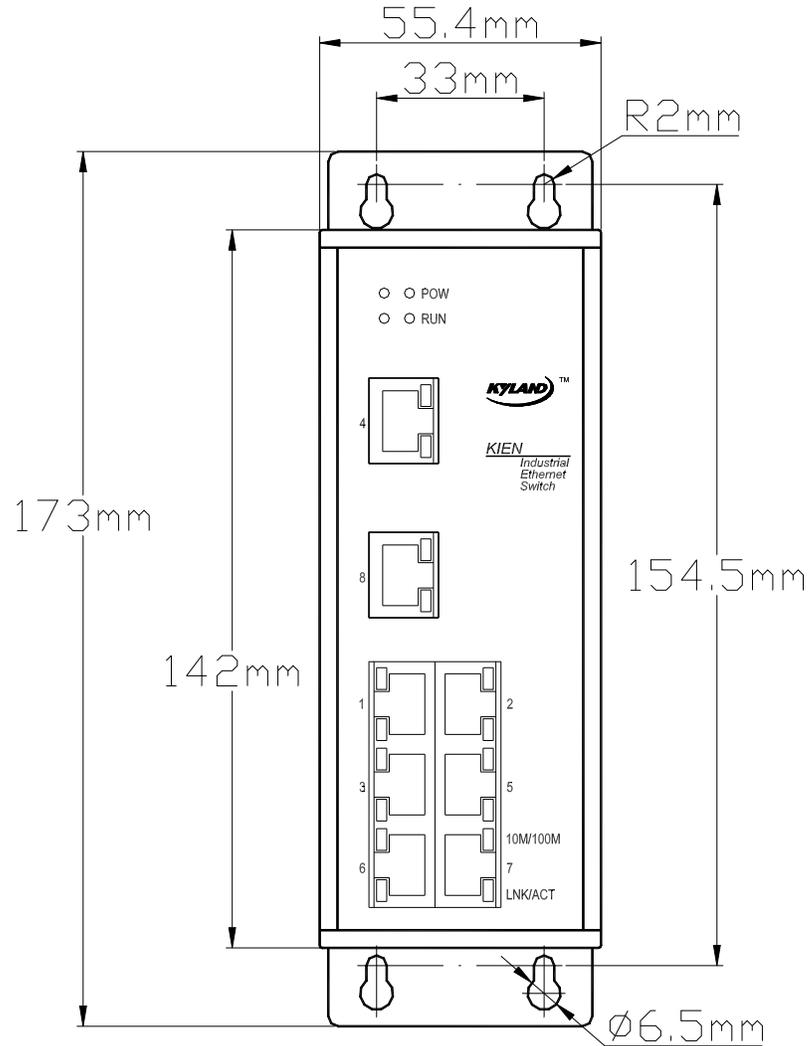

Figure 4-3 Size of Wall Hanging Mounting for KIEN1000 and KIEN2000
In case that DIN rail-type mounting is inconvenient, it is better to adopt wall mounting. KYLAND Telecom provides users with wall mounting boards that are mounting parts for mounting of KIE1000 and KIE2000 serial industrial Ethernet switches. The size of wall mounting is showed in the Figure 4-3.
- 3 . Select a vertical wall or internal wall of the switch cabinet as the mounting position. If the vertical wall is selected, recommend to mount the switch with $\Phi 6$ plastic expansion bolts and $\Phi 3$ tapping screws. In accordance with the mounting size in the Figure 4-3, drill 4 $\Phi 6$ holes on the wall with a impact electric drill
with a depth that can completely contains the $\Phi 6$ plastic expansion bolts. Insert the plastic expansion bolts into holes on the wall and screw the tapping screws into the plastic expansion bolts with a cross head screwdriver. But do not screw them tightly and keep a space of about 5mm. If the internal wall of the switch cabinet is selected, recommend to open 4 M3 screw holes when the switch cabinet is manufactured in accordance with the mounting size in the Figure 4-3. Or drill $4\Phi 4$ holes with a electric portable drill on site. Screw four $M3\times 10$ cross recessed pan head screws into 4 holes. If the holes have no threads, mount four M3 nuts on its back. At last, do not completely screw down screws and keep a space of 5mm.